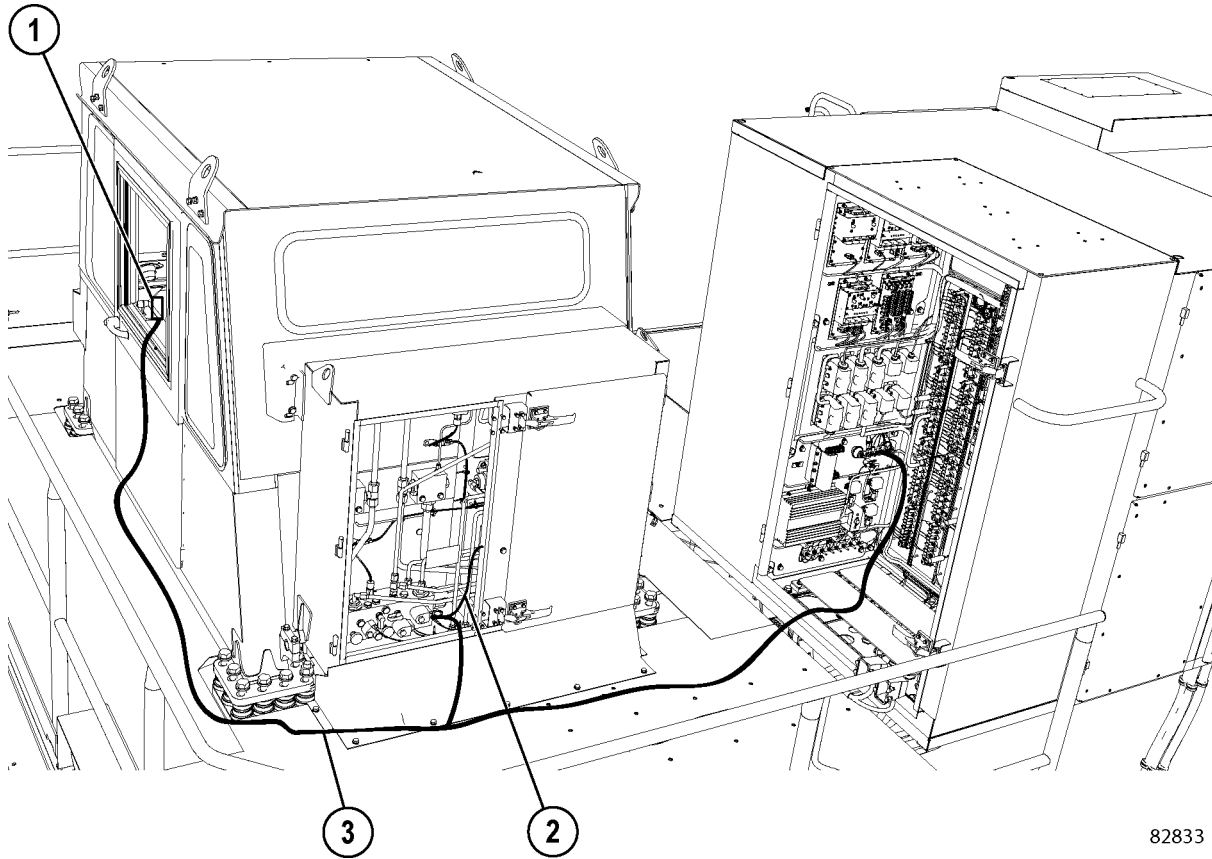

FIGURE 30-3. PARKING BRAKE WIRING FOR TOWING
- a. Ensure switch (1) is in the OFF position.
- c. Disconnect the truck wiring harness from parking brake solenoid (2, Figure 30-2). Connect special wiring harness (3, Figure 30-3) to the parking brake solenoid. Attach short lead (2) to ground.
- d. With the window lowered, place the end of the special wiring harness inside the cab so the operator can control switch (1).
10. The operator in the disabled truck should now move switch (1) to the ON position. This will release the parking brakes.